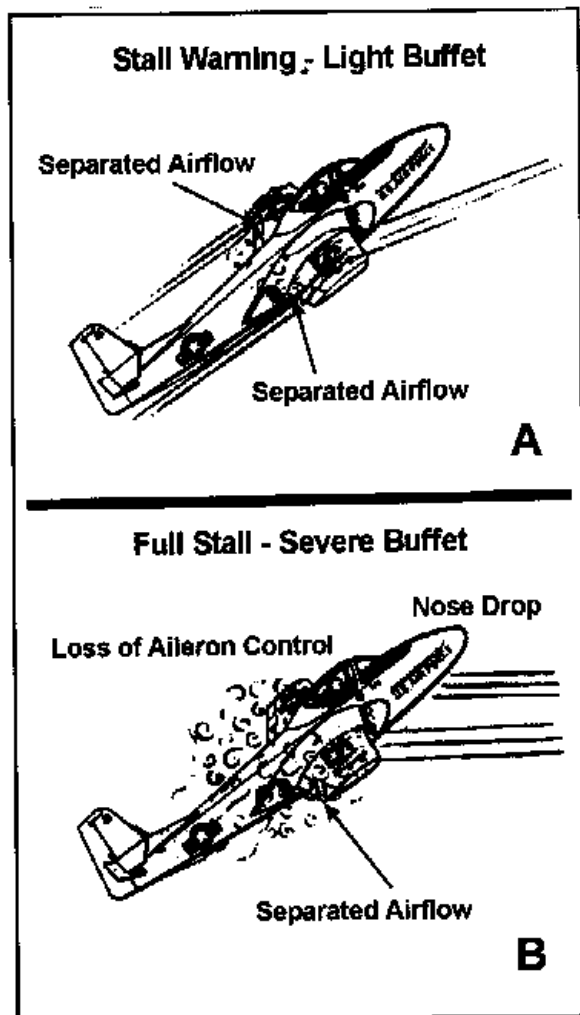

Figure 5.3. Stall Warning.
5.2.3. Stall Warning. In a clean configuration, the T-37 provides stall warning in the form of buffet. This is easily understood by referring to figure 5.3, step a. As the stall begins, the smooth airflow starts to separate from the wing in a small region near the wing root. The resulting turbulent wake strikes the tail and shakes the controls. This shaking or buffeting indicates the need to reduce the AOA to prevent a full stall.
5.2.3.1. The full stall is reached at an AOA slightly higher than the angle where buffet begins to be noticed (figure 5.3, step b). The separation has spread over most of the top rear portion of the wing. Tests confirm that as this happens in the T-37, the airflow over the tail surface becomes so disrupted that the elevator can no longer hold up the nose. Thus a sudden decrease in pitch takes place, which is often referred to as nose drop. Nose drop is easily noticed in the low G, high pitch attitude stalls. During level flight stalls and accelerated stalls, nose drop is not so apparent. These stalls are best characterized by very heavy buffet, loss of aileron effectiveness, and rolling motions.